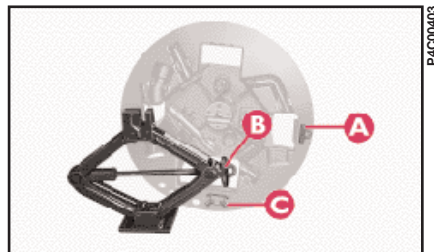

fig. 7
– Refit the jack in its support making A (fig. 7) coincide with the ring B on the jack and positioning the base of the jack to match C.